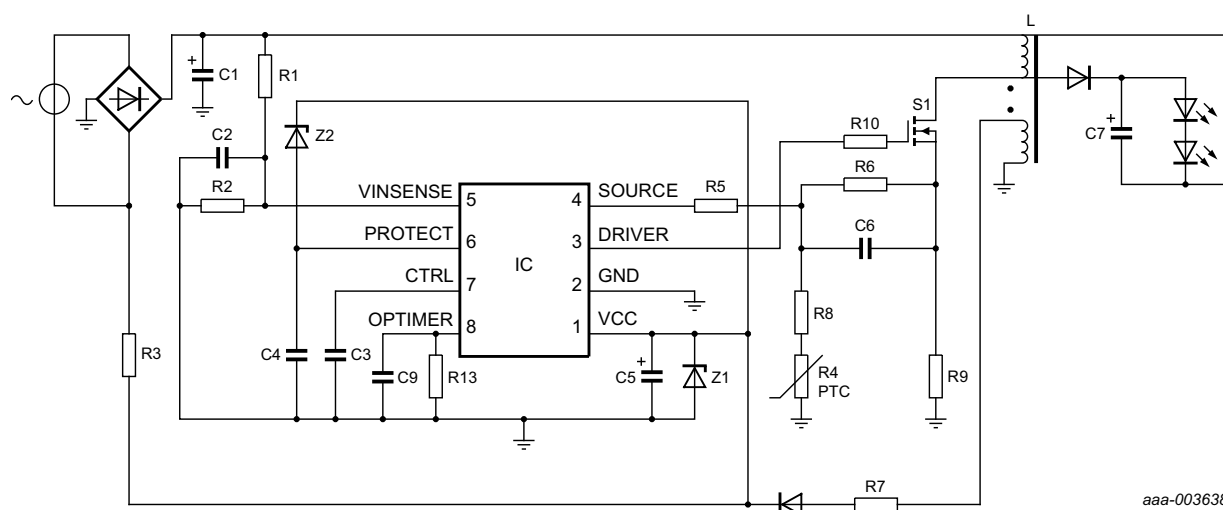
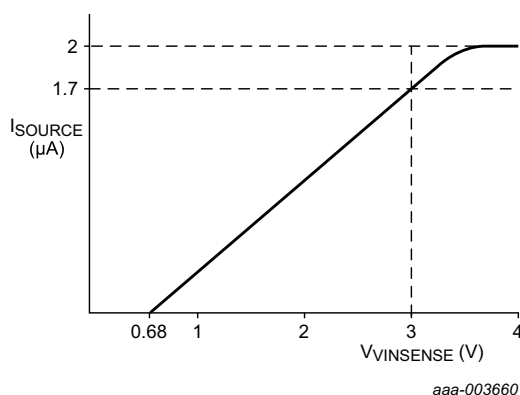

Fig 3. SSL5001T basic low ripple buck-boost application diagram
Fig 5. Overpower compensation using the VINSENSE and SOURCE pins
- Low component count (see Figure 3) LED driver solution:
The converter in the SSL5001T is a low-cost fixed frequency, peak current controlled system. See Figure 3 for the basic application diagram. See Figure 5 for the waveforms. To reduce ElectroMagnetic Interference (EMI), frequency jitter has been implemented.
The overpower compensation function can be used to realize a maximum output power which is nearly constant over the full mains input. The overpower compensation circuit measures the input voltage on the VINSENSE pin and outputs a proportionally dependent current on the SOURCE pin (see Figure 5). The DC voltage across the soft-start resistor limits the maximum peak current on the current sense resistor.